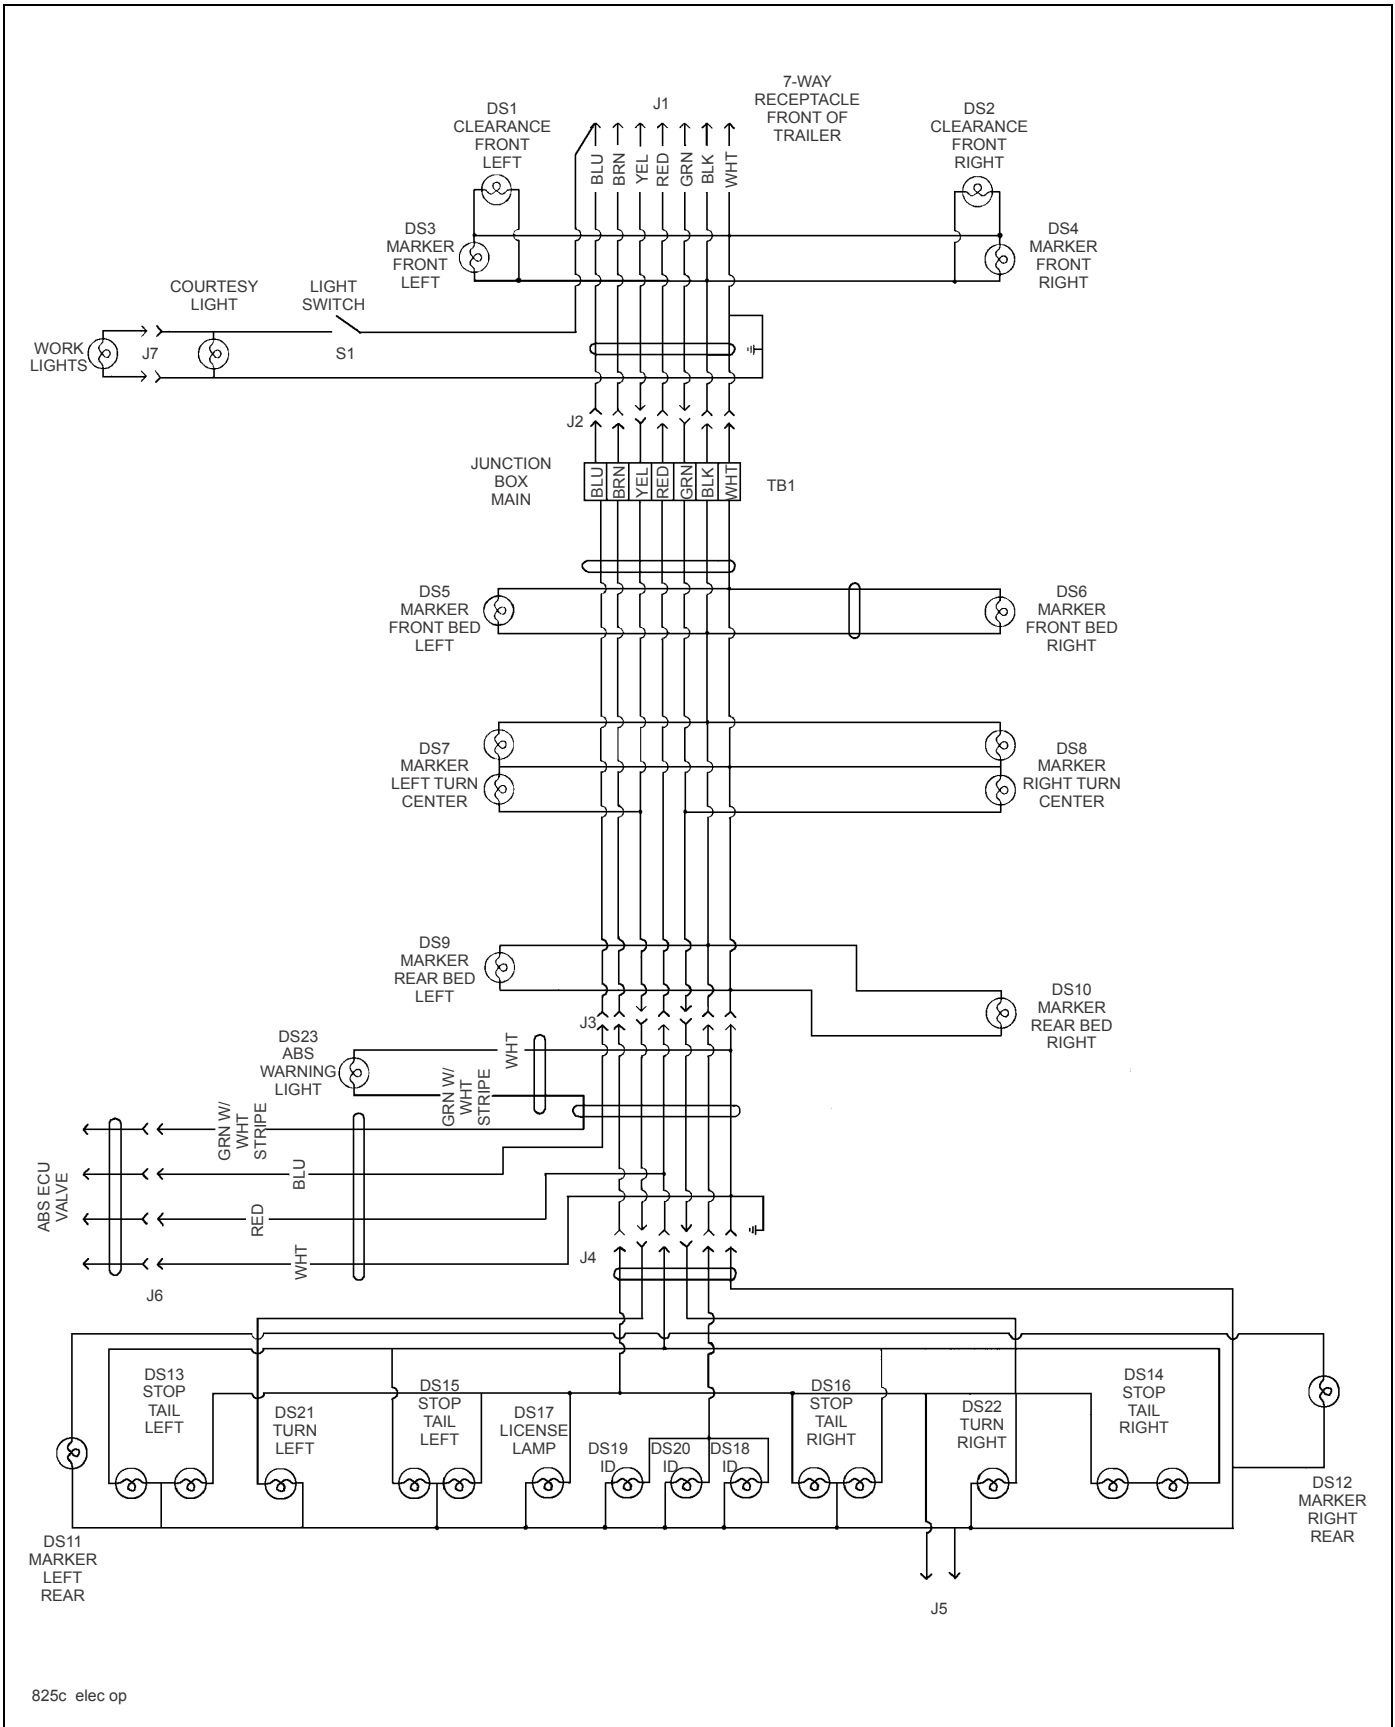

Figure 4-3: Model 825C/835C/855C Wiring Diagram
- 1. Maintenance of the electrical system consists of inspection and minor servicing. Any wire, connection or electrical component showing signs of corrosion, wear, breakage or unraveling must be repaired or replaced. (See Figures 4-3 and 4-4 for electrical wiring diagram)